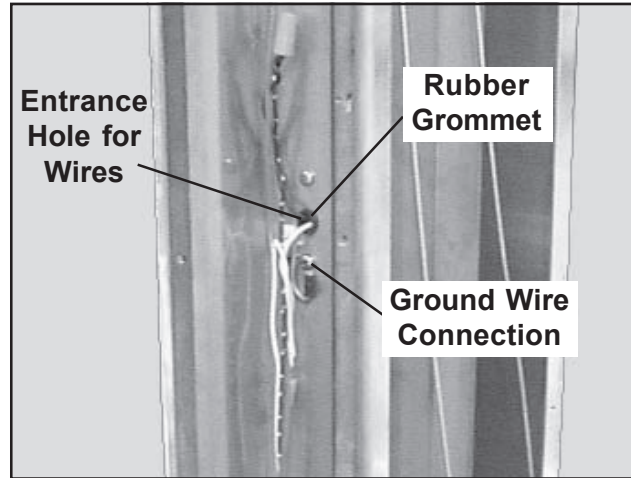

Figure 24. Ground Wire Connection
5. Remove the loop connector on the green wire (ground) from the mounting screw (Figure 24).